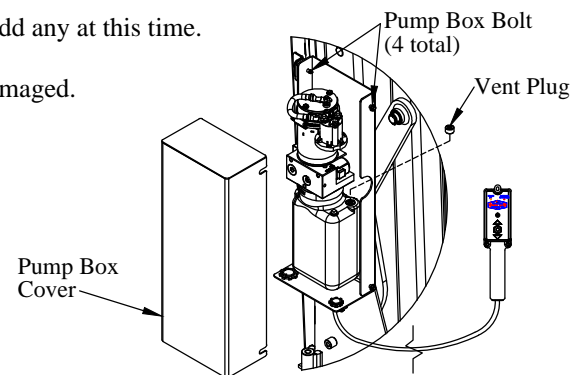

Figure 16: Pump and motor unit.
14. **Loosen** the four (4) pump box bolts (Figure 16).
15. **Remove** the pump box cover (Figure 16).
16. **Remove** the solid plastic shipping plug from the reservoir (Figure 16).